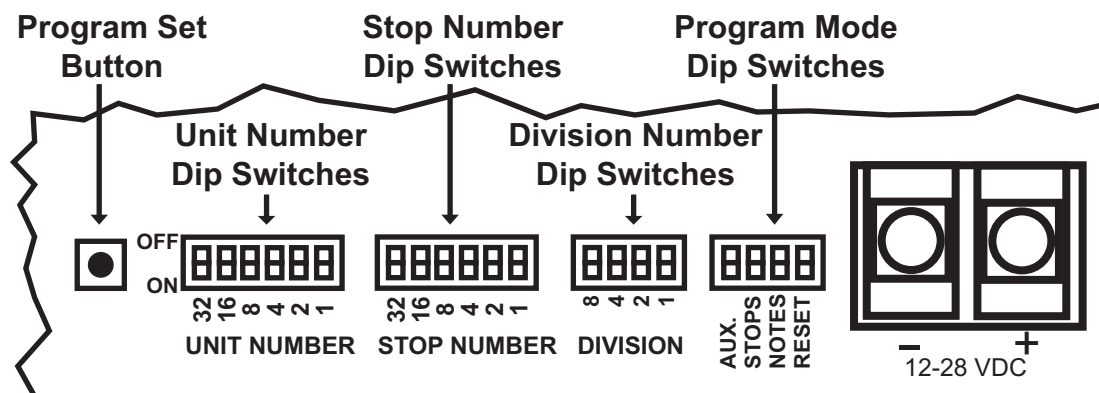

Figure 5.4 “Driver-Board-Programming-DIPs”
2. On the Program Mode Dip Switches, see figure 5.4 “Driver-Board-Programming-DIPs,” set the NOTES switch to ON (closed) . The AUX., STOPS and RESET Switches must be OFF (open).
3. (optional) To clear all Note memory set the RESET switch to ON and press the Program Set Button, see figure 5.4 “Driver-Board-Programming-DIPs.” Set the RESET switch to OFF, wait approximately 5 seconds for the Note memory to be erased and then proceed to the next step.
4. Set the Division Number Dip Switches, see figure 5.4 “Driver-Board-Programming-DIPs,” to equal the division number that the Stop is in (Pedal/Division-1; Great/Division-2; Swell/Division-3 and Choir/Division-4 ...).
5. Set the Stop Number Dip Switches, see figure 5.4 “Driver-Board-Programming-DIPs,” to desired Stop number.
6. Set the Unit Number Dip Switches, see figure 5.4 “Driver-Board-Programming-DIPs,” to the desired Unit number. For a list of Note Unit Numbers see table 5.3 “Note Unit Types” on page 5-5.